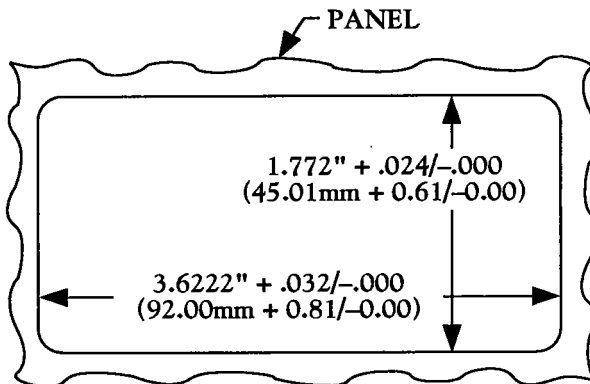

Figure 5-13. Panel Cutout Dimensions
2. Using the panel cutout diagram shown in Figure 5-13, cut a hole in the panel.